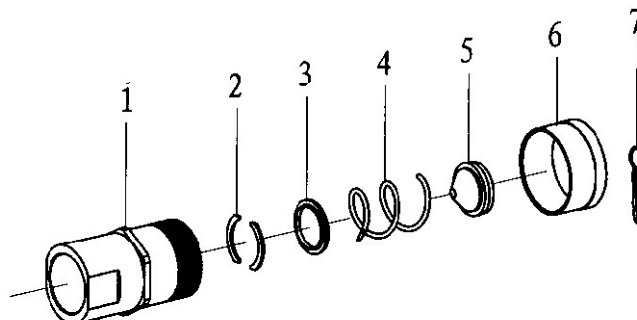

Fig 16
7.13. Quick exchange adaptor adaptor(1 7/8-12UN) (Fig16, Table15)